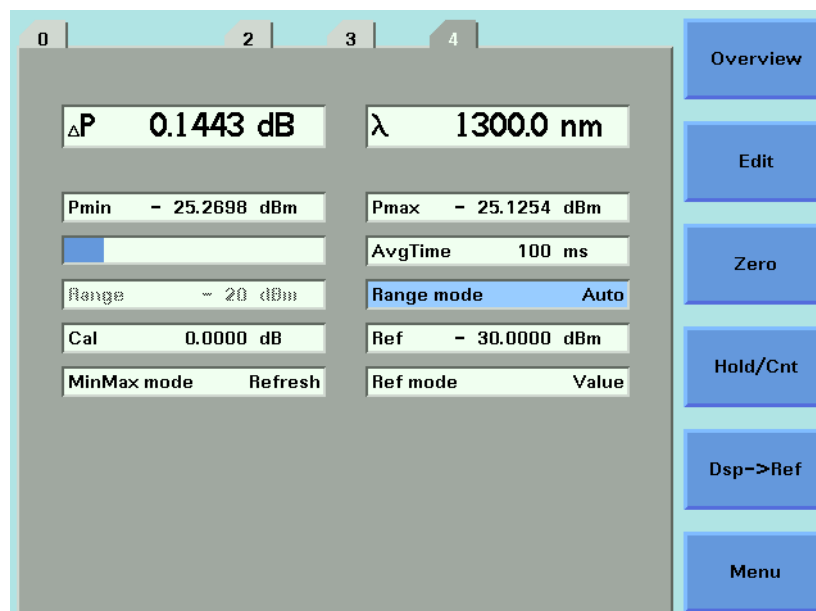

Figure 54 MinMax Mode Screen
- 3 Move to <Refresh>, by using the cursor key, and press *Enter*. The screen in Figure 54 appears.